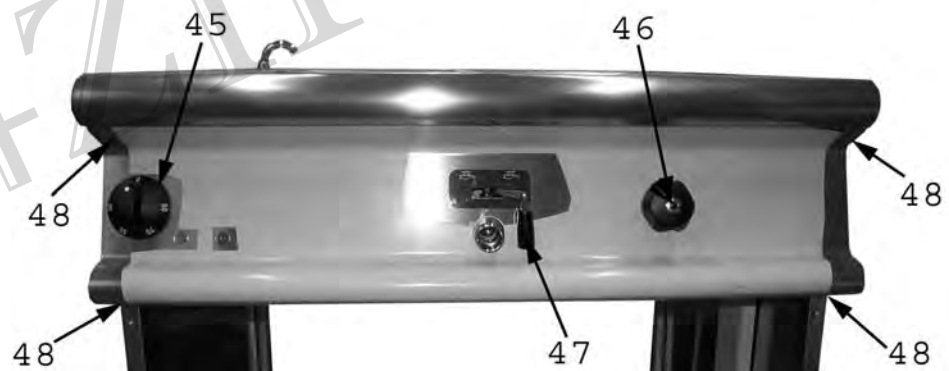

Fig. 16
- take out the knob (item 45 in Fig. 16);
- unscrew the screw shown as item 46 to access the screw that fixes the water tap knob;
- unscrew the knob shown as item 47;
- unscrew the screws shown as item 48 to remove the front panel.